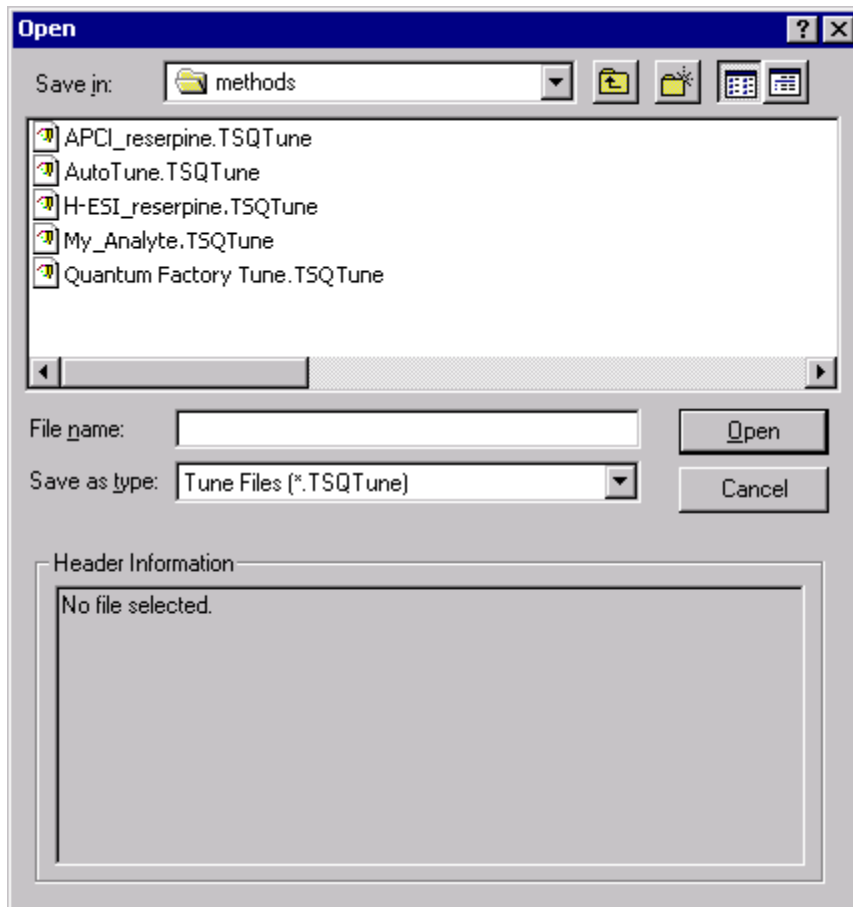

Figure 4-5. Open Tune Method dialog box
i. Click on the Optimize Compound Dependent Devices button to display the Optimize Compound Dependent Devices view in the top right corner of the workspace. See Figure 4-5.
a. On the File / Display toolbar, click on the Open File button to display the Open dialog box. See Figure 4-5.